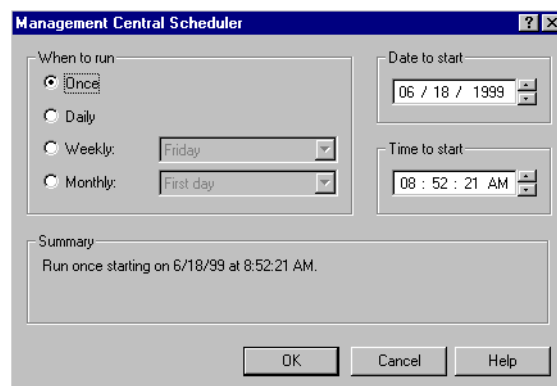

Figure 25. Management Central Scheduler
6. Click **OK** to start the command task immediately or click **Schedule** to specify how often you want to run this task and when you want the task to start. Figure 25 shows an example window to schedule the command.